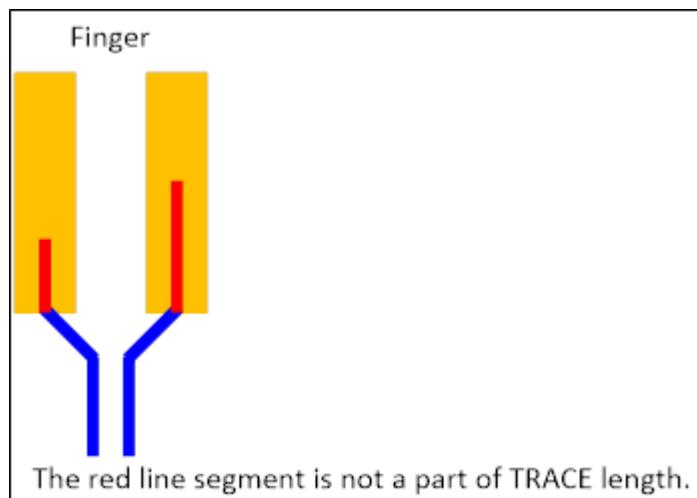

Figure 37: The Count Method of TRACE Length
2. Do not count the trace length inside FINGER-PAD, as shown in Figure 37.